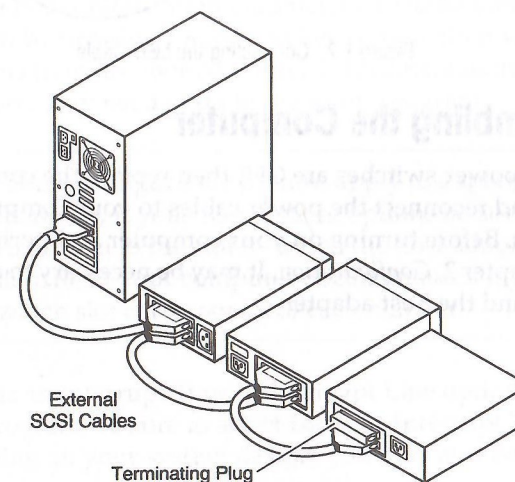

Figure 1-6. Daisy-chaining External SCSI Devices
Read the device's documentation to determine how to enable or disable termination on your particular SCSI device(s). On most internal SCSI devices the termination setting is controlled by a jumper or a switch. On other internal SCSI devices you must physically remove or install resistor module(s). On most external SCSI devices, a terminating plug (a resistor pack embedded in a small plug) is installed or removed to control termination (see Figure 1-6 on page 1-11).
- 4 To connect other external SCSI devices, daisy-chain each device to the previous device until all external SCSI devices have been connected (see Figure 1-6).